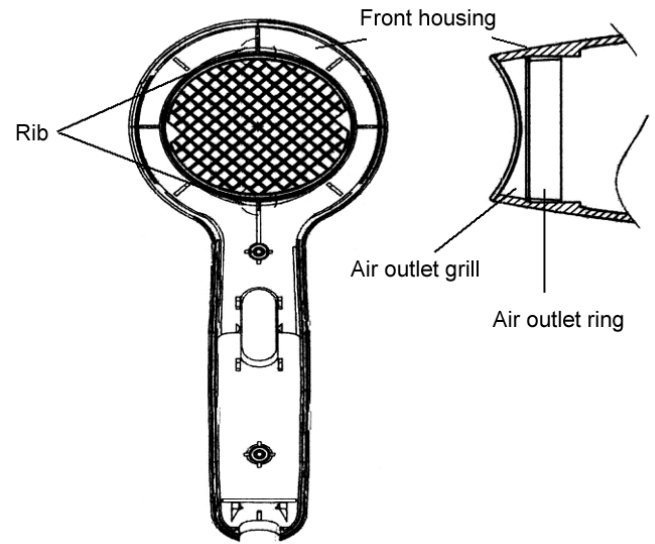

Figure 6
- (8) Set the air outlet grill and the outlet ring to the heater block by align ribs of the air outlet ring with slot of front housing as shown in Figure 6.